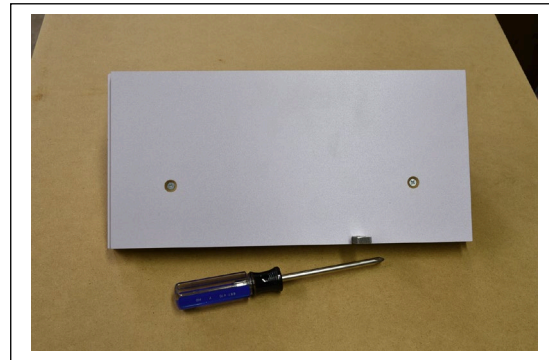

fig. 4
4. Select the corresponding sacrificial fence (L, M, or N) to match the box joint width you are going to make. Secure the sacrificial fence (L, M, or N) to the vertical fence (A) using the two M5 machine screws (G) (see fig 4).